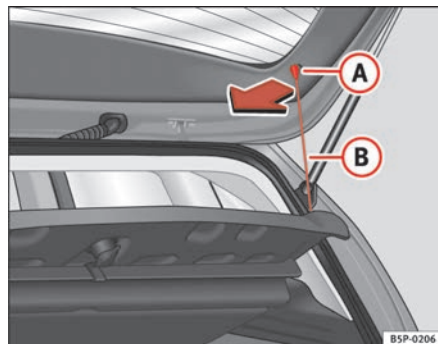

Fig. 124 Luggage compartment cover
- Disengage the loops ⇒ fig. 124 **B** from the retaining pins **A**.